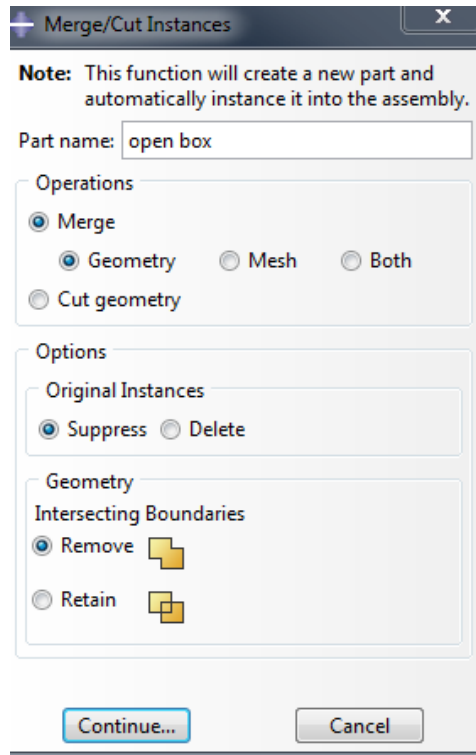

Figure L1a–6. Assembly operations performed on instances.
9. Return back to the Part module and select the open box part that was just created. To define a surface on the inside of the box, from the main menu bar, select **Tools→Surface→Create**. Name the surface as **box-inner** and hit continue. Select all the inner faces of the box by holding the shift key while selecting and hit Done. When prompted on choosing a side for the internal faces, select the color (Brown/Purple) that corresponds to the inner faces (in this case, see Figure L1a-7, Brown). Again select **Tools→Reference Point** and select any vertex of the open box to act as a reference point.